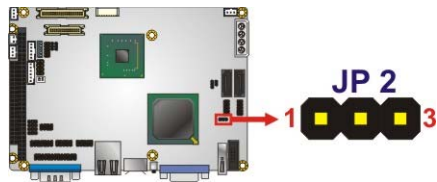

Figure 4-2: Audio Input Jumper Location
- Jumper Location:** See Figure 4-2